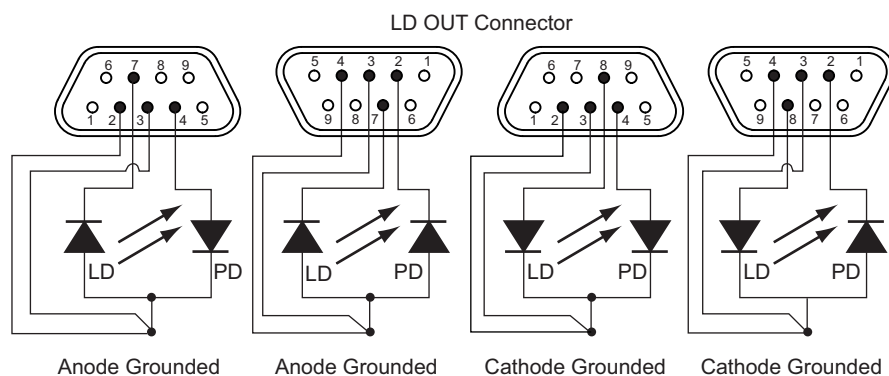

Fig. 3.4 Laser Diode Connections
For the lowest noise and highest level of protection, the case of the laser diode package should always be connected to the electrical system ground. Since normally the case will also be electrically connected to either the anode or the cathode of the laser diode, this results in two common configurations: anode grounded (AG) and cathode grounded (CG). This can be established from the laser diode data sheet and the device should be connected to the D-type connector on the KLD101 accordingly. Additionally, in most cases either the anode or the cathode of the internal photodiode (if there is one) is also connected to the case, resulting in four possible configurations, as shown in Fig. 3.4.